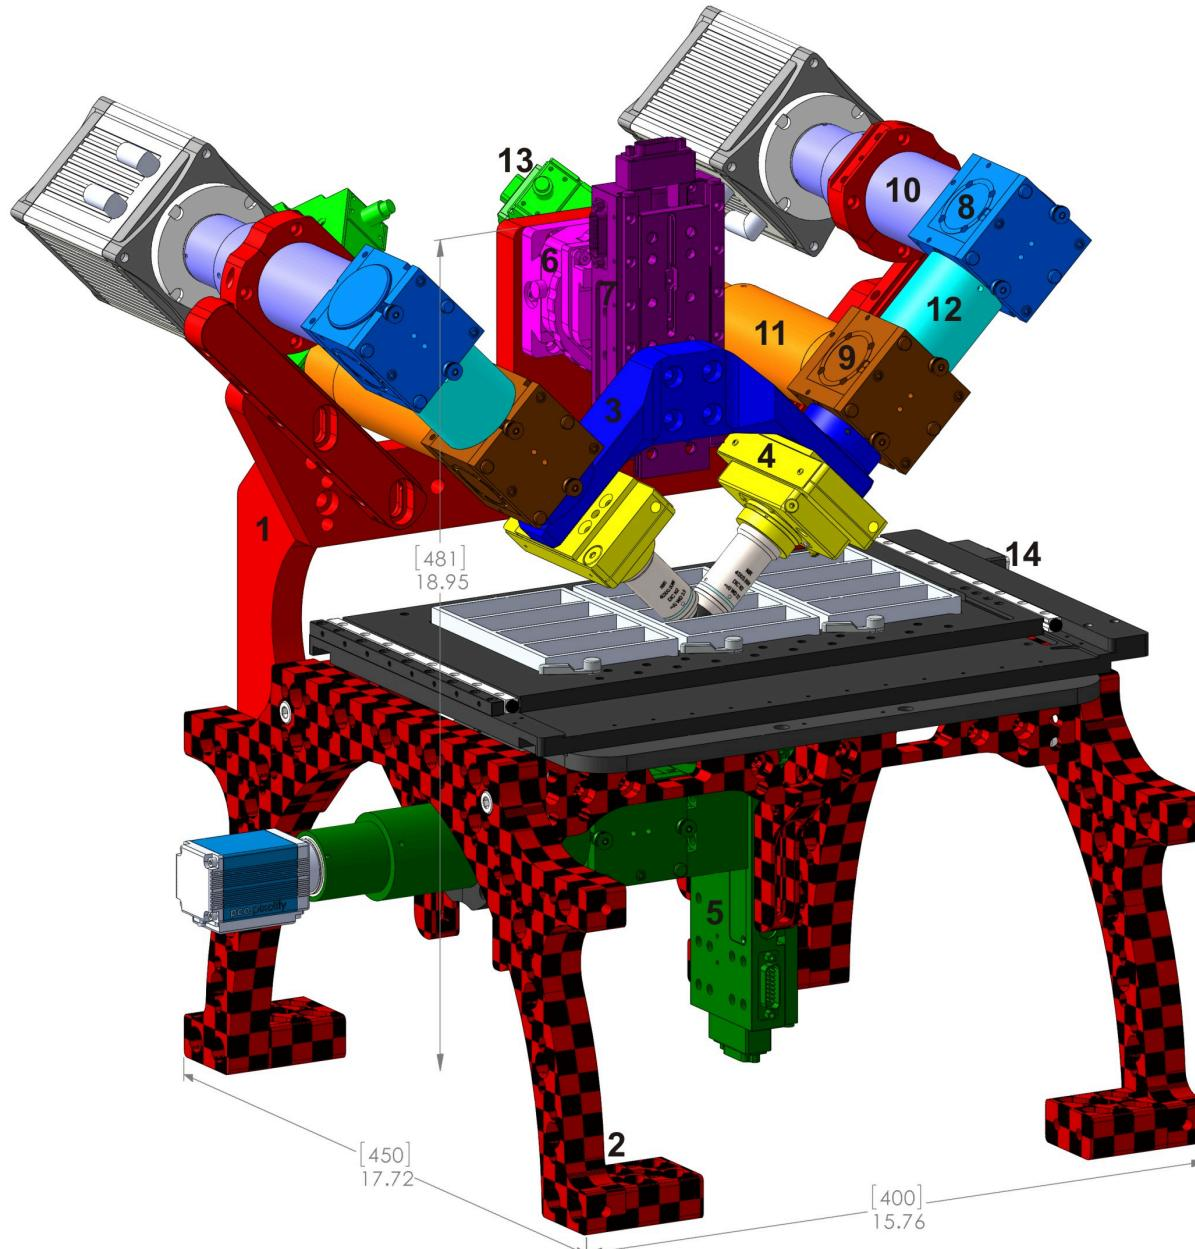

Figure 1: Typical complete diSPIM system on RAMM frame
- ASI RAMM frame (Figure 1)
In the standard configuration for diSPIM on a RAMM frame, as in Figure 1, each camera tube lens is fastened to the SPIM-MOUNT3) with a ring clamp. The end of the tubes should come within approximately 1 mm from the upper (mirror) CUBE-IIIs. When the objectives are lowered into position for viewing a sample, adjust the bolts holding the tube support arms so the camera tube lenses are centered on the CUBE-IIIs.